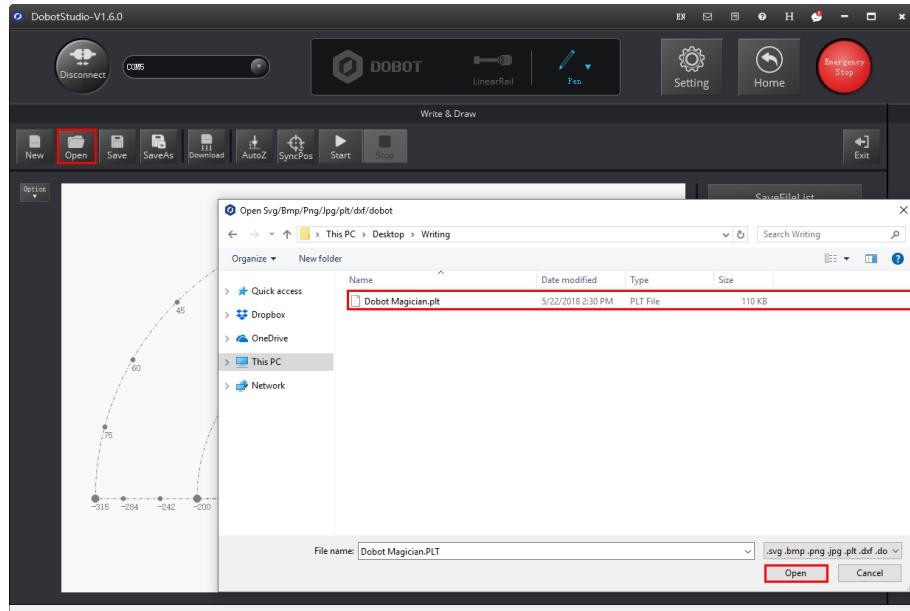

Figure 5.70 Open a PLT or SVG file
- Click **Open** on the **Write & Draw** page to import a built-in PLT or SVG image file from the **DobotStudio** installation directory **InstallatationDirectory\DOBOTStudio\config\prefab\system\source**, as shown in Figure 5.70. You can also import your custom PLT or SVG image file.